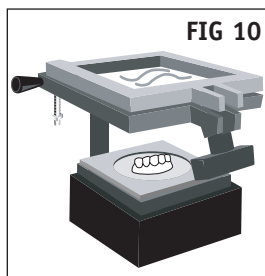

FIG 10
4. Essix C+ rises toward the heat source, then becomes wavy as it lowers from the raised position (Fig. 10).